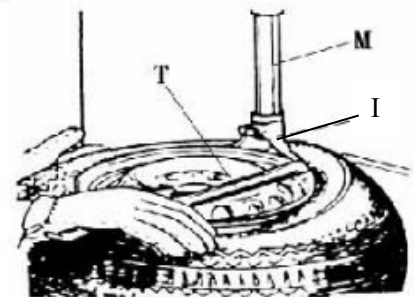

Fig.6
Lower the Vertical Arm (M) until the Mounting/demounting head (I) rests next to the edge of the rim, flip the Locking Handle (K) to lock the Vertical Arm and Swing Arm in position, and also adjust the Rocker Arm make Mounting/demounting head can raise 2mm-3mm automatically from the edge of the wheel rim. Insert the Lifting Lever (T) between the tyre bead and the front section of the mounting/demounting head (I), and move the tyre above the mounting/demounting head as shown as **Fig.6**.